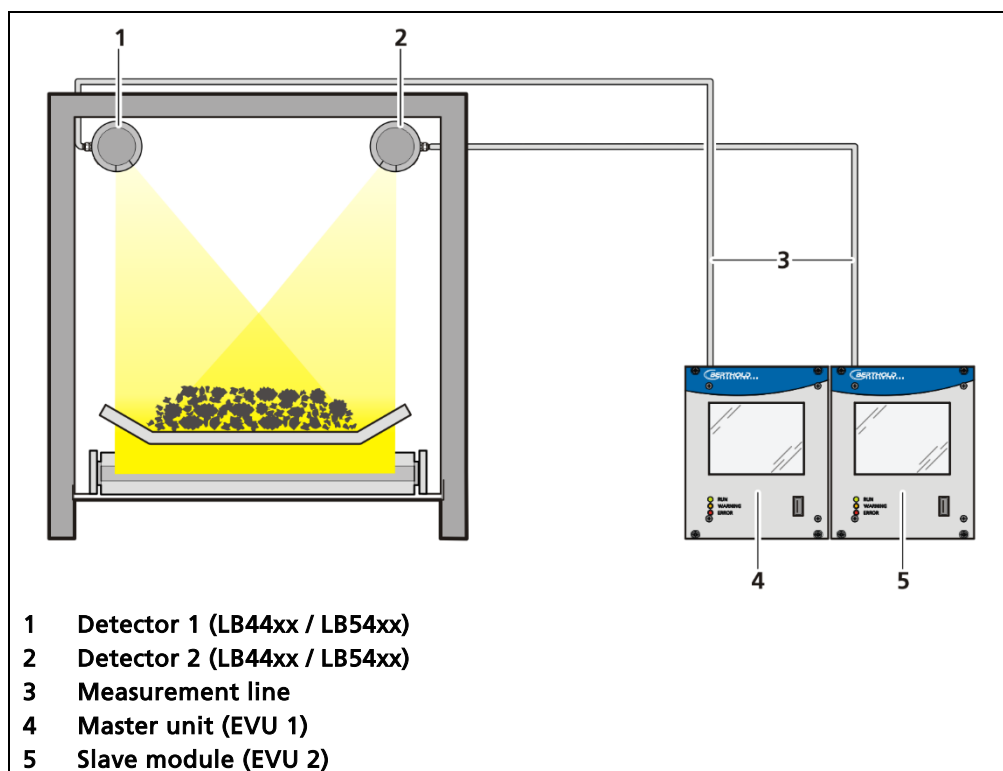

Fig. 60 Cascaded measurement arrangement with LB44xx / LB54xx detectors
The transmitter of the first detector (Fig. 60, item 1) works as a Master in the function. The count rate and error messages of the Slave system (Fig. 60, item 2 and item 5) are transferred to the Master unit via the RS 485.